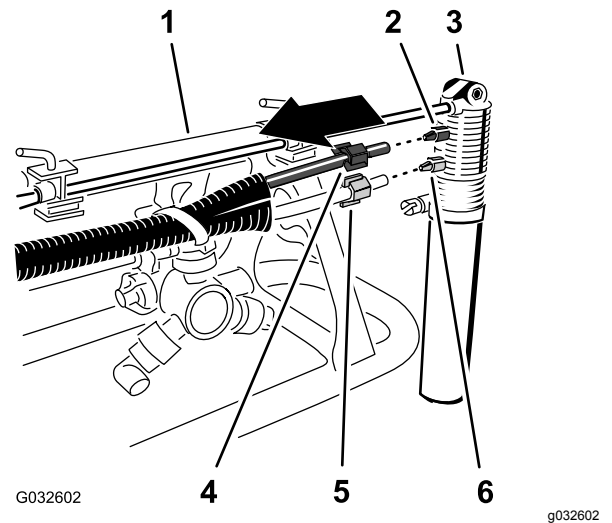

Figure 21
2. At the foam-marker nozzle, loosen the compression nut that secures the blue tube (water) to the blue compression fitting of the foam-marker nozzle (Figure 21).
3. Loosen the compression nut that secures the clear tube (air) to the white compression fitting of the foam-marker nozzle of the foam-marker nozzle (Figure 21).
5. Remove the compression nuts at the ends of the tubes (Figure 21).